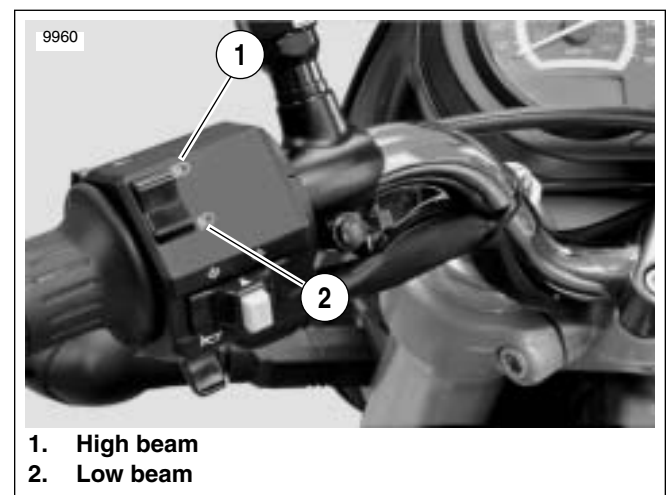

Figure 1-58. Headlight Switch
- a. See Figure 1-58. Turn ignition switch to IGN. Set handlebar headlight switch to LOW beam position.
- a. See Figure 1-58. Set handlebar headlight switch to HIGH beam position.